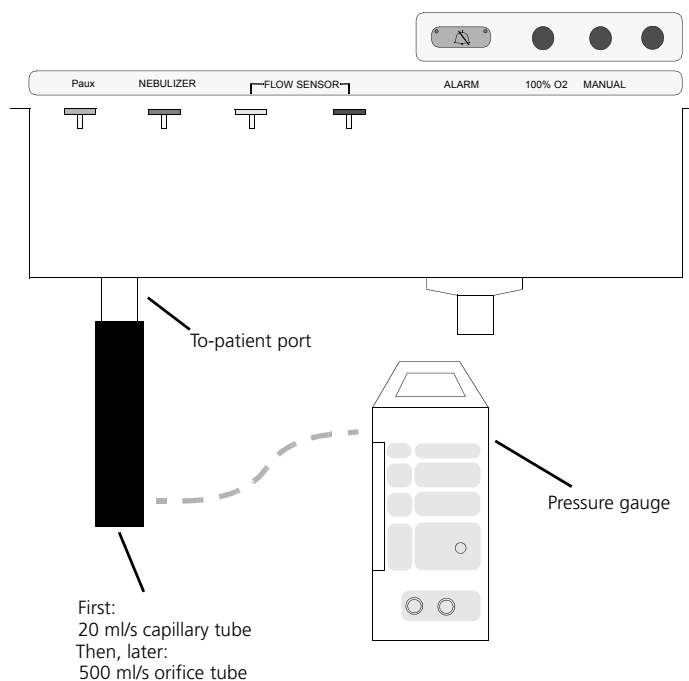

Figure 9-34. Setup for the inspiratory-valve air-delivery check
1. Connect the 20 ml/s capillary tube and the pressure gauge as shown in Figure 9-34.